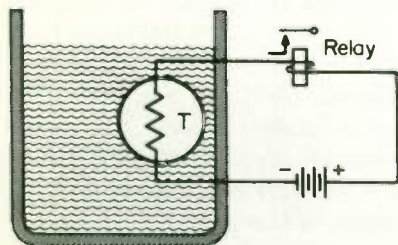

Fig. 29 Thermistor circuit for maintaining liquid level.
it is in air. This principle is used in the circuit of Fig. 29 to automatically control the level of the liquid in the tank. When the liquid level goes down so that the thermistor is exposed to air, its resistance (167) _____. This (168) _____ the current through the relay coil, causing the relay to operate. The contacts of the closed relay turn on a motor which pumps additional fluid into the tank.